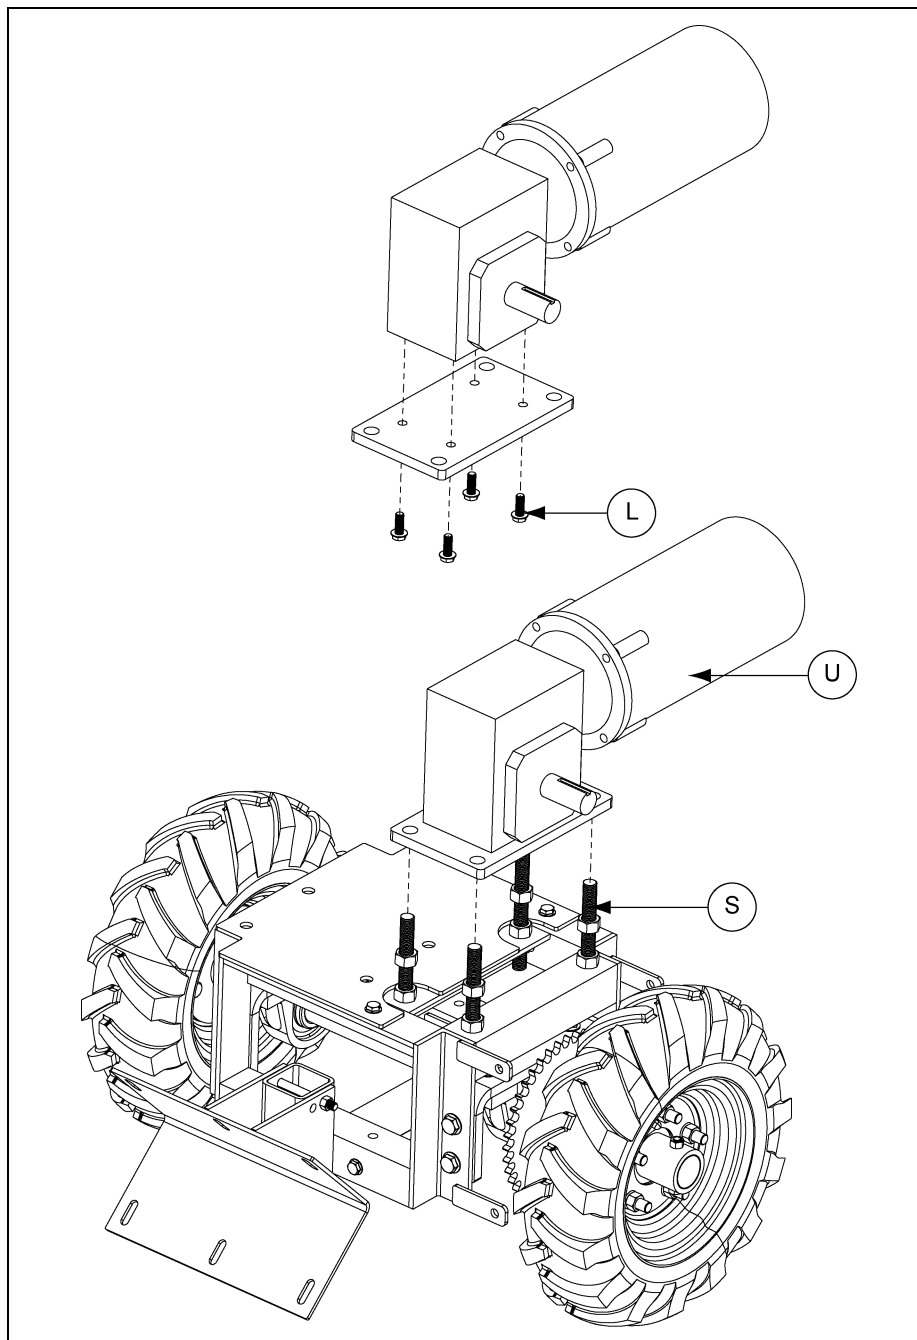

Figure 4V
13. Mount the drive assembly to the gearbox plate using four (4) 3/8"-16 x 1" flange bolts (L). Place the gearbox plate and motor assembly (U) over the threaded rods (S), resting on the hex nuts.
- (See Figure 4V.)